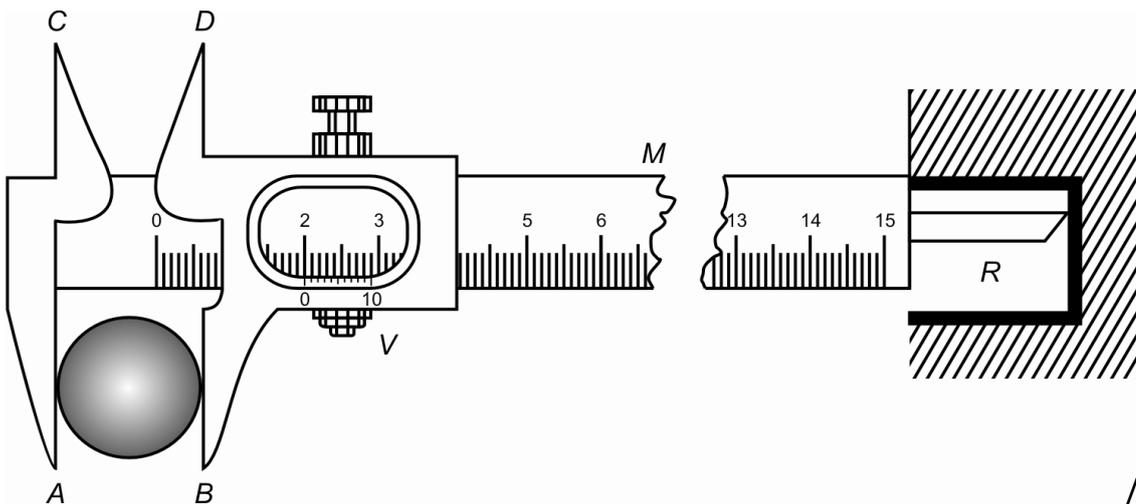

Fig.1.3a: Vernier callipers with bob in the jaws
You have now decided on the number of oscillations (M) to be counted. After this, measure the diameter of the bob using vernier callipers shown in Fig. 1.3a. Record the least count in Observation Table 1.2(a). Take observations in different directions. Calculate the radius. (The length of the string plus the radius of the bob defines the length of the pendulum.)